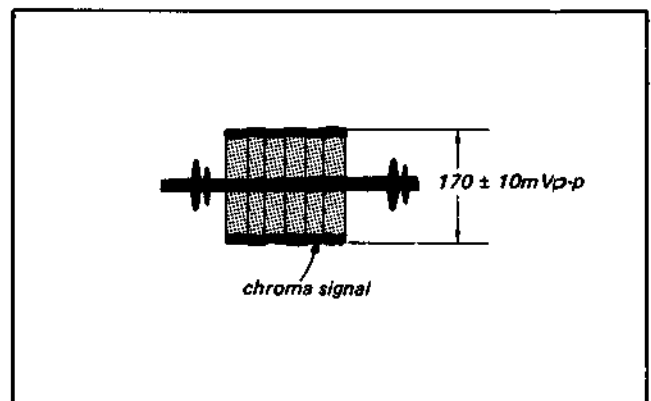

Fig. 4-4-24. Chroma record current adjustment
- (1) Supply the VTR with the colour bar signal and set up the E-E mode.
- (2) Connect the oscilloscope to center tap of RV20.
- (3) Adjust RV20 for a chroma signal level of $170\text{mV} \pm 10 \text{ mV}_{p-p}$. (See Fig. 4-4-24.)
- (4) Check that the level of the pilot burst signal is $0.4 V \pm 0.05 V_{p-p}$. If not, adjust RV18. (See Fig. 4-4-24.)